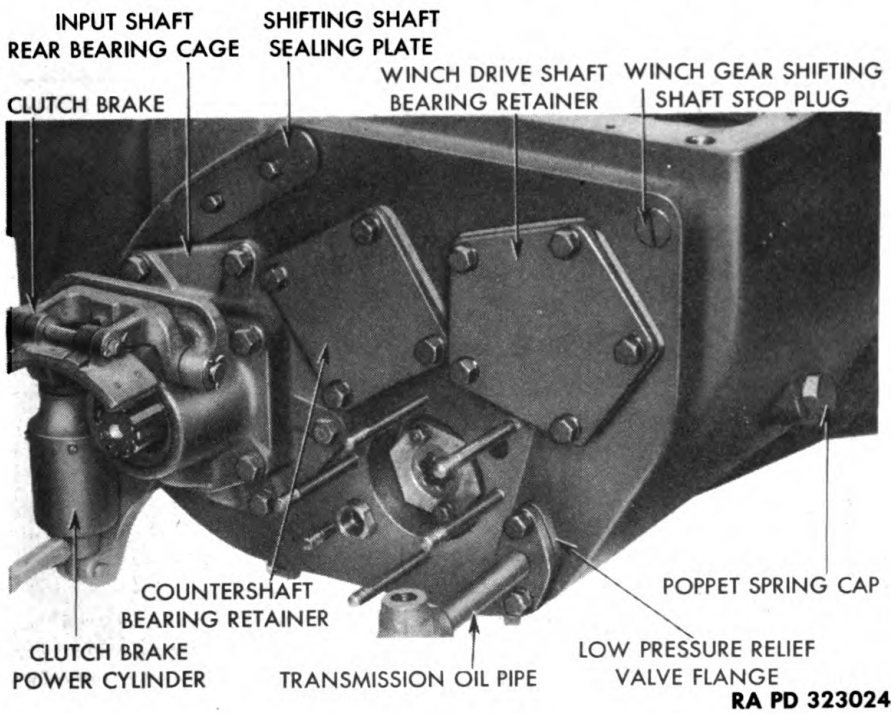
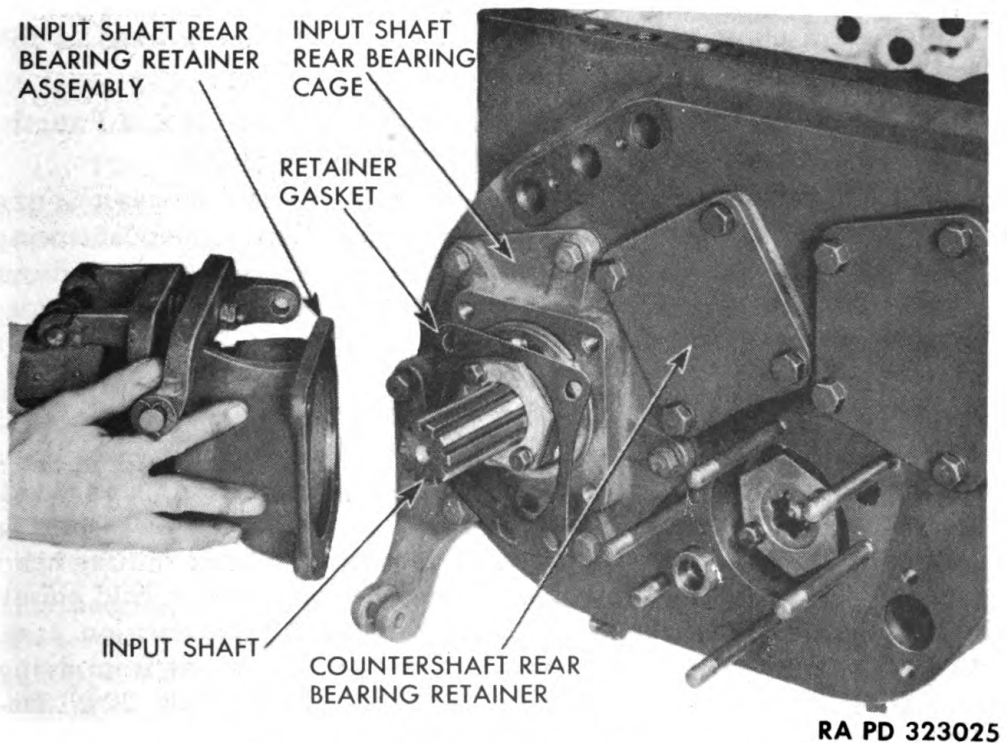
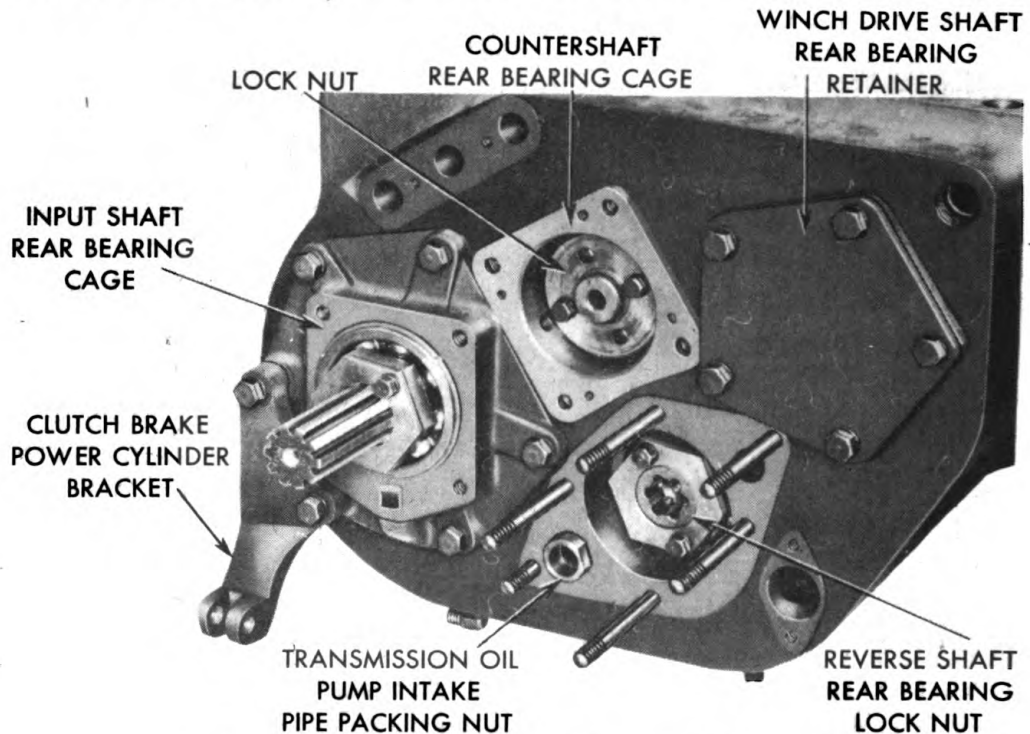
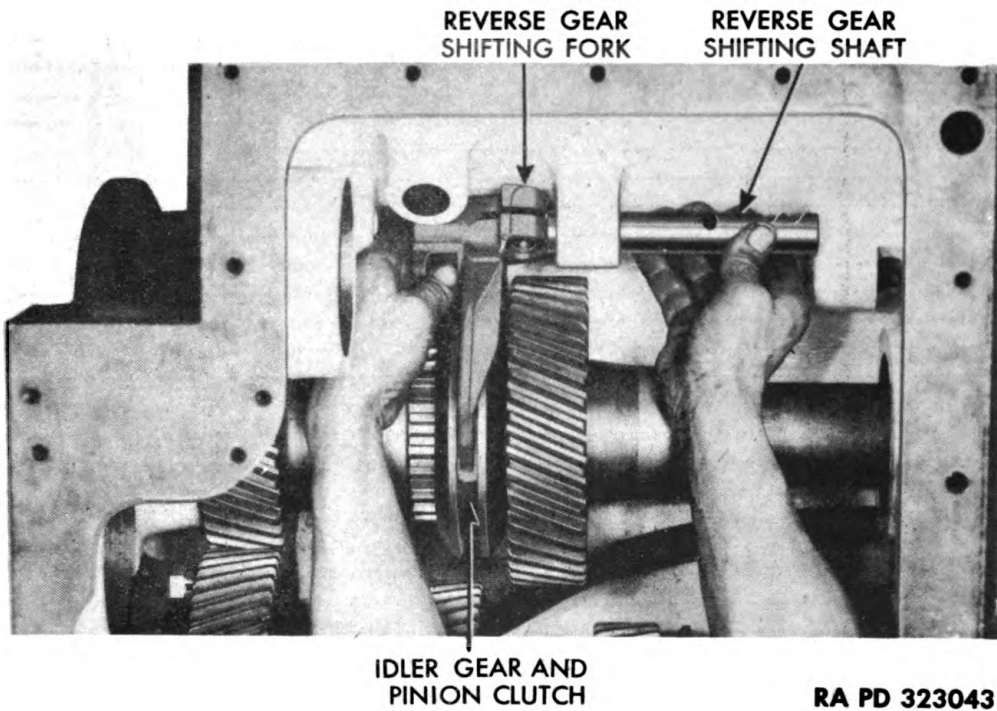

Figure 23 — Rear of Transmission with Oil Filter and Oil Pump Removed
Figure 24 — Transmission Input Shaft Rear Bearing Retainer Assembly Removed
Figure 25 — Rear View of Transmission RA PD 323026
Figure 42 — Removing Reverse Gear Shifting Fork
c. **Remove Input Shaft Rear Bearing Retainer.** Remove cotter pin and pin attaching clutch brake power cylinder to bracket (fig. 23). Remove four cap screws and lock washers securing retainer assembly to input shaft rear bearing cage, and remove retainer assembly and gasket (fig. 24).
d. **Remove Countershaft Rear Bearing Retainer and Case with Rear Bearing.** NOTE: *If the transmission is removed from the vehicle, the rear lifting bracket will have to be removed instead of the rear bearing retainer.* Remove four cap screws and lock washers securing retainer and cage to case (fig. 24), and remove retainer. Remove two cap screws and lock washers from rear bearing lock nut (fig. 25). With wrench (41-W-3247-170), remove countershaft rear bearing lock nut. NOTE: *Lock nut is removed in same manner shown for removing winch drive shaft lock nut (fig. 35).* Screw four puller screws ($\frac{3}{8}$ NC-2 x $3\frac{1}{2}$) into rear bearing cage tapped holes (fig. 26). Turn each screw a small amount at a time to pull bearing cage evenly so as not to strain cage flanges to breaking point. Rear bearing is removed with cage. Bearing is a loose fit in cage, and can readily be removed.
e. **Partly Remove Input Shaft Rear Bearing Cage.** Remove six cap screws and lock washers securing input shaft bearing cage to transmission case (fig. 24). Two of these cap screws also attach clutch brake power cylinder bracket (fig. 25). Screw a slide hammer puller into one of four tapped holes in input shaft rear bearing cage, and pull cage out of transmission case until cage is flush with
i. **Remove and Disassemble Winch Drive Shaft Assembly.** Remove five cap screws and lock washers securing winch drive shaft rear bearing retainer and rear bearing cage to transmission case (fig. 23). Remove two cap screws and lock washers from rear bearing lock nut (fig. 34). With wrench (41-W-3247-170), remove lock nut from shaft (fig. 35). Insert three puller screws ($\frac{1}{2}$ -NC-2 x 3) into rear bearing cage tapped holes (fig. 36), and screw in evenly to remove rear bearing cage with bearing from transmission. Slide winch drive shaft unwind gear off shaft and out of transmission (fig. 37). Place lock nut on rear end of shaft and, using the adapter made for pulling the countershaft and reverse shaft nuts, start pulling shaft as shown in figure 28. Shaft cannot be pulled until front bearing lock nut is removed. Remove two cap screws with lock washers from front bearing lock nut. With special wrench (41-W-3336-900) loosen front bearing lock nut (fig. 38). Unscrew lock nut by turning shaft
j. Remove and Disassemble Reverse Shaft Assembly. Remove reverse gear lower shifting shaft poppet spring cap (fig. 23). **NOTE:** *Make sure poppet spring does not fly out of hole when cap is removed.* Insert finger in hole and remove poppet. Remove cap screw and lock washer clamping reverse gear shifting fork to shifting shaft. Slide reverse shifting shaft toward rear of transmission, and remove shaft and fork (fig. 42). Pull or drive reverse shaft rear bearing out of its bore toward rear of transmission. A slide hammer puller can be used as described in subparagraph f. Remove rear bearing lock nut (fig. 25) from shaft. Pull rear bearing from shaft with a puller (41-P-2911) (fig. 43). Place a strap or rope around reverse pinion, and lift reverse shaft assembly out of transmission case (fig. 44). Remove two cap screws and lock washers from front bearing lock nut, and